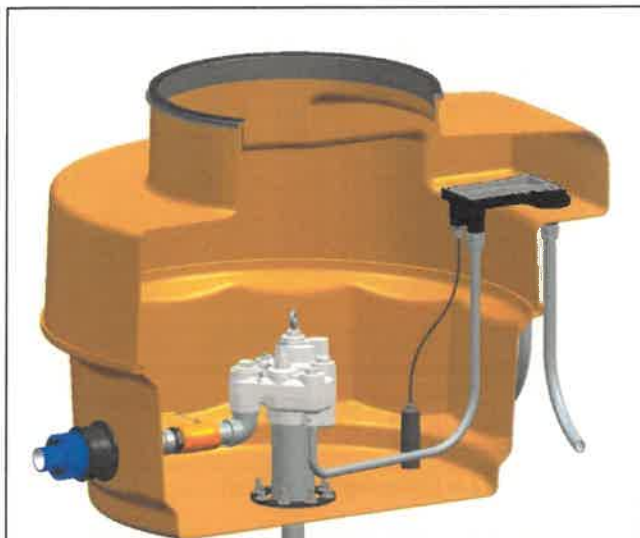

Figure 18
f) Attach conduit and grommets as required to internal threads on Kwik Wire junction box. Example shown in Figure 18 includes conduit for submersible turbine pump and grommet for sump sensor.